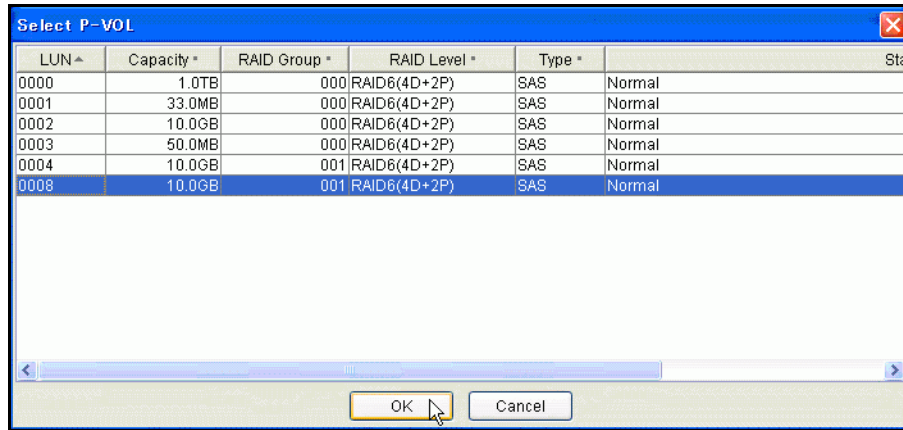

Figure 11-16: Select P-VOL Dialog
- Select the LUN for the P-VOL, and click **OK**. The Select P-VOL dialog appears, as shown in Figure 11-16.